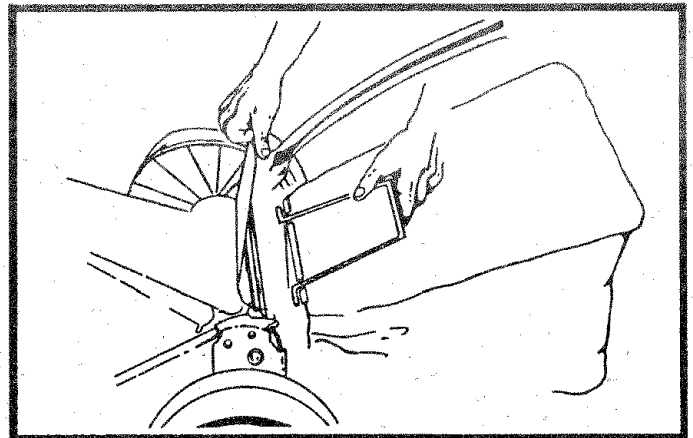

FIG. 8
- To change cutting height, squeeze adjuster lever toward wheel. Move wheel up or down to suit your requirements. Be sure all wheels are in the same setting (See Fig. 8).